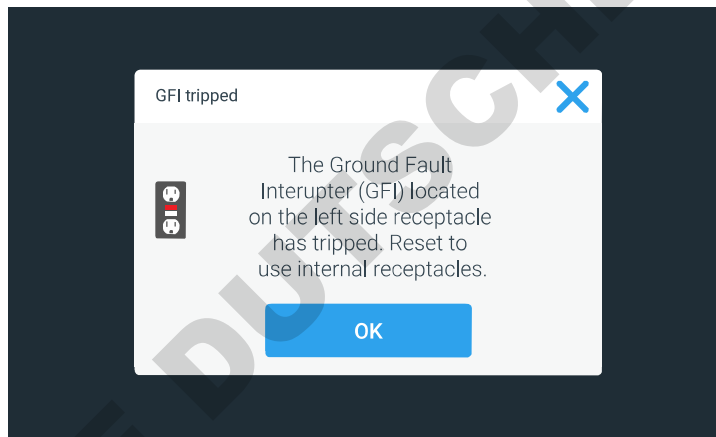

Figure 64 “GFI tripped” Alert Details Screen
4. Tap any entry in the alarm list to view additional details, as in the GFI Tripped (US versions only) example in Figure 64 below.